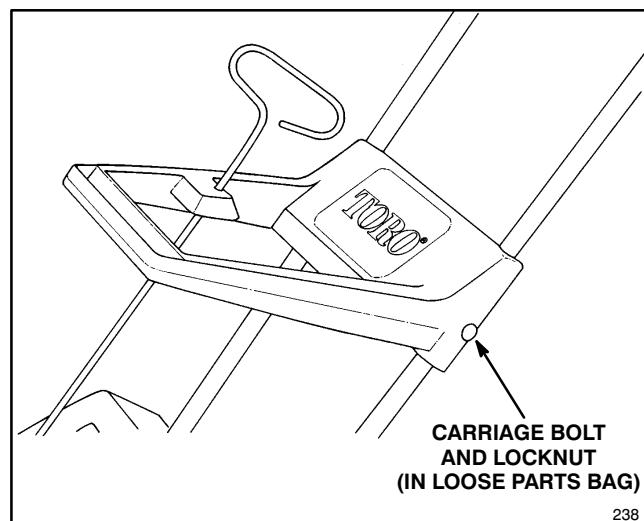

Figure 2
- Install carriage bolts with heads of bolts to the outside of the middle handle (Fig. 2). Screw locknuts onto carriage bolts and tighten assembly. Be sure carriage bolts are completely inserted through middle handle before tightening locknuts.